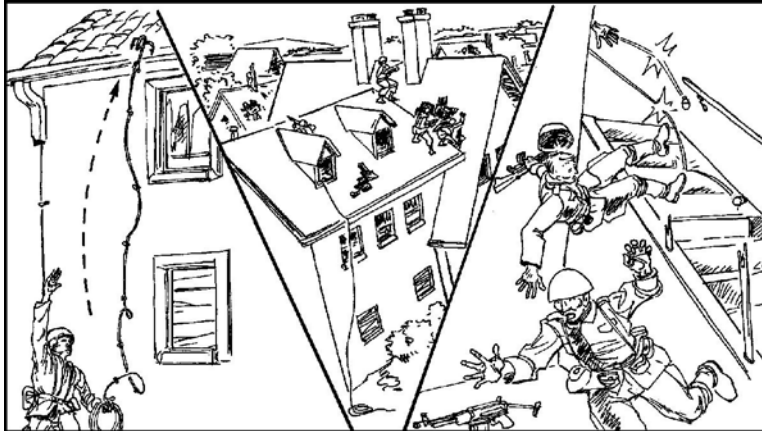

Figure 2. Fighting down stairs.
- (1) The ground floor and basement are usually the enemy's strongest point.
- (2) The roof of a building is normally weaker.
- (3) Fighting down the stairs is easier than fighting up the stairs (Figure 2).